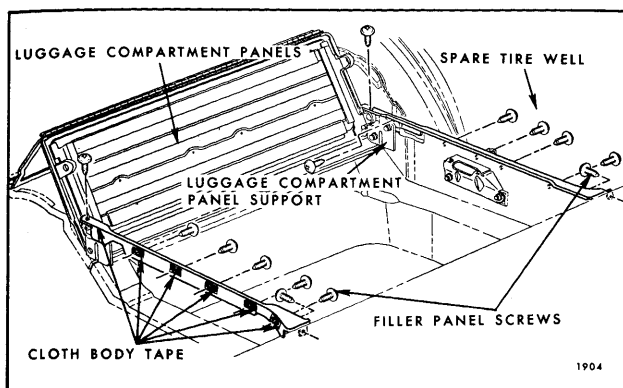

Fig. 10-50—Rear Compartment Pan Side Filler Panels
1. On "35" Styles, use handle and fold rear luggage compartment panel forward until it is resting entirely on front luggage compartment panel (Fig. 10-50).
5. Along inboard and outboard side facing of right and/or left panel, remove screws which secure panel to panel supports (Fig. 10-50) and remove panel(s) from body.
6. To install, reverse removal procedure. If installing new filler panel, apply cloth body tape over all screw attaching holes. (See Fig. 10-50).
2. Fold combined front and rear luggage compartment panels to "up" or half open position. (See Fig. 10-50).